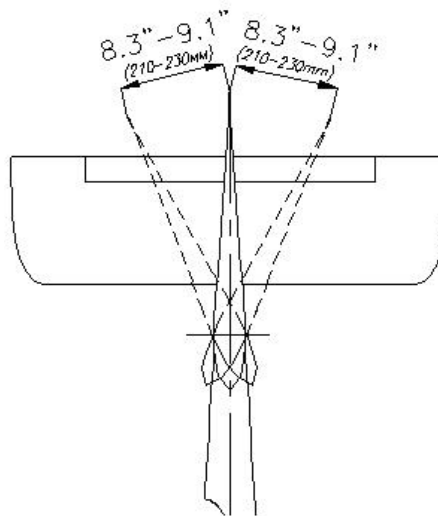

Fig. 4
- 4) Check angles of deflection (Fig. 4).
- 5) Repeat items 1 through 4 if necessary.
- 7) To reduce angle of deflection to the right move the stop KA4010004 on the right rod KA4010400R. The rest of the process repeats items 1 and 3 through 6.